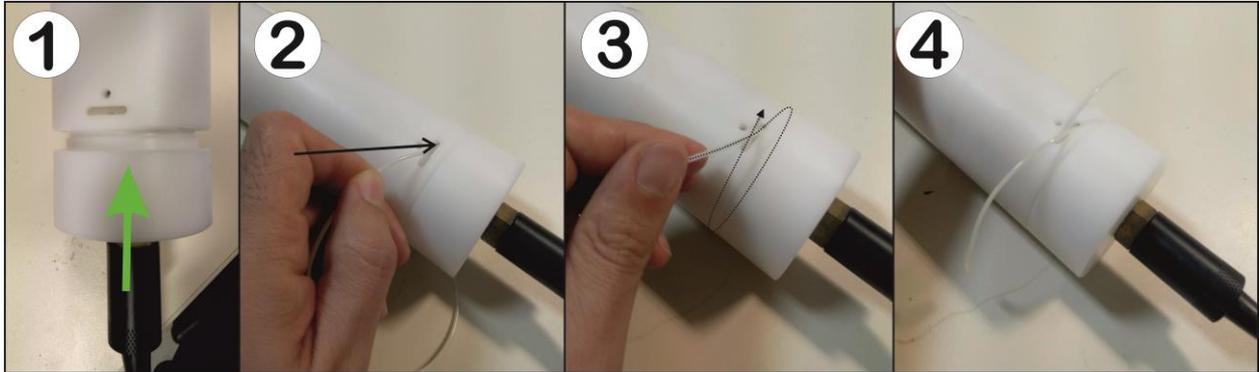

Figure 13 - Closing the end cap
Assemble the DAVS by inserting the cap with care in the cylinder. Just slide it in the direction shown at Figure 13 (1) and press a little in the end, there's no fixed position for this cap. Put the locking plastic wire, by rolling it (3) through the opening of the image (2). After closing it, the two ends of the locking wire will be sticking out, and the system is ready for deployment (4).